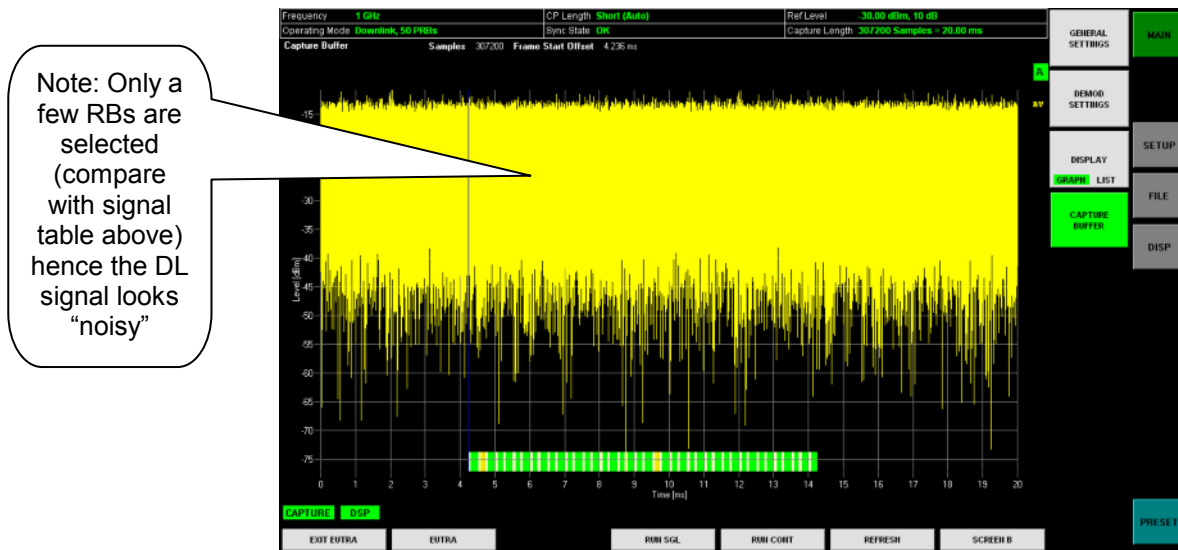

Figure 4-8 Analyzing EUTRA/LTE DL signals – Power vs. Time
1. Power vs. Time (Figure 4-8)